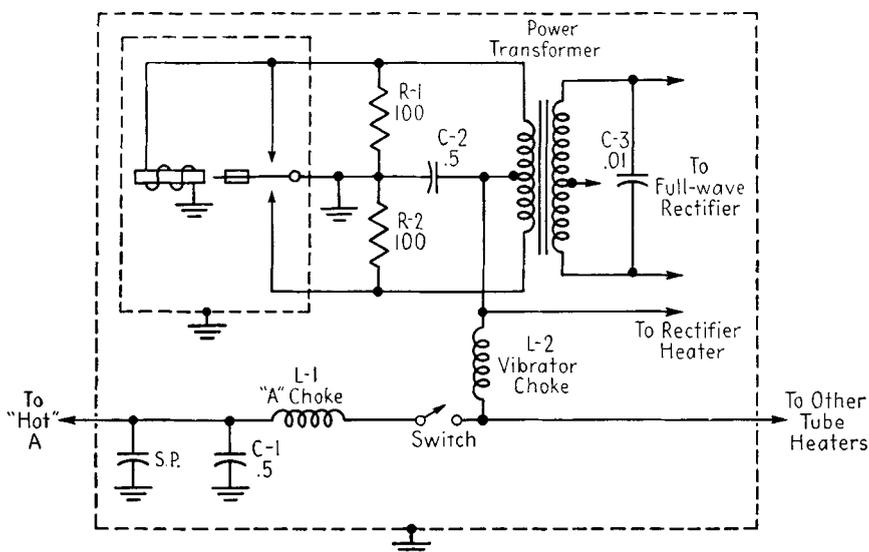

FIG. 21-7. Typical vibrator circuit including provision for hash suppression.
**Vibrator hash.** The making and breaking of current at the vibrator contacts are accompanied by sparking. The sparking decreases the life of the vibrator points and causes RF interference in the receiver. This interference is known as "hash." Practical vibrator circuits include provision for spark suppression and hash filters. A typical circuit is shown in Fig. 21-7.